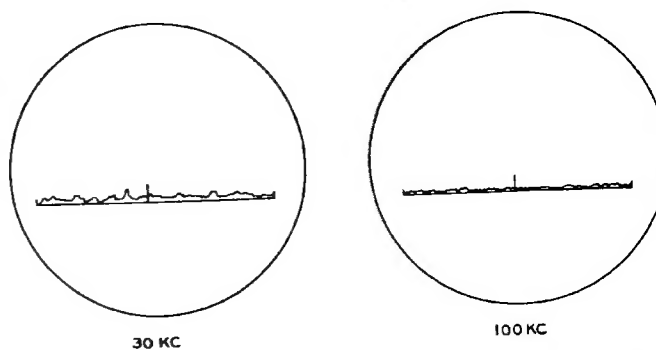

Figure 14
**Figure 14 - Background Noise:** This type of noise has the appearance of grass and is usually much lower in amplitude than the above types of noise. It gives a hissing sound in a speaker.